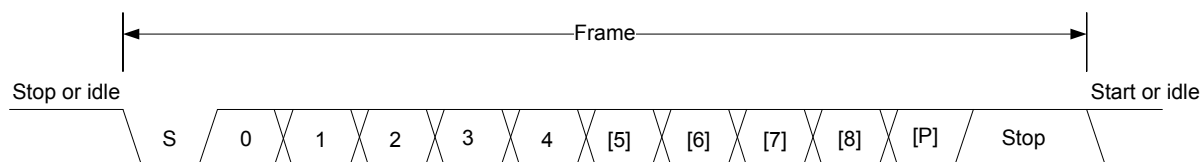

Figure 20.2. USART Asynchronous Frame Format
The frame format used in asynchronous mode consists of a set of data bits in addition to bits for synchronization and optionally a parity bit for error checking. A frame starts with one start-bit (S), where the line is driven low for one bit-period. This signals the start of a frame, and is used for synchronization. Following the start bit are 4 to 16 data bits and an optional parity bit. Finally, a number of stop-bits, where the line is driven high, end the frame. An example frame is shown in Figure 20.2 USART Asynchronous Frame Format on page 569.